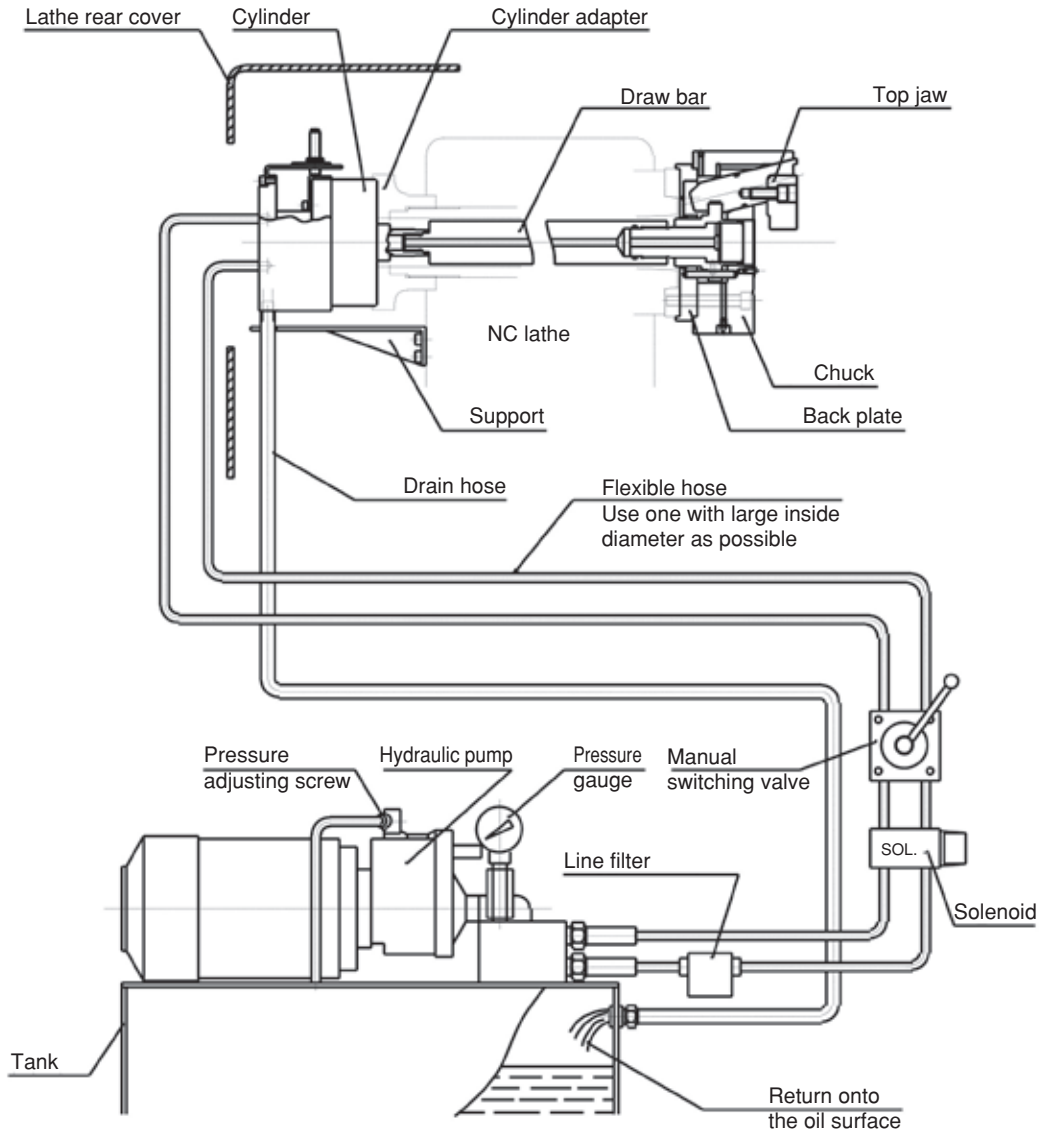

Fig. 10
- The end of the hose is physically above the oil level. (Refer to Fig.10)
- Arrange the drain hose to come back to the above of oil tank surface of the hydraulic unit.(Fig.10) If the drain hose is connected to T-port such as valve block, etc., the oil seal of cylinder will damage because back pressure is applied to the hose.